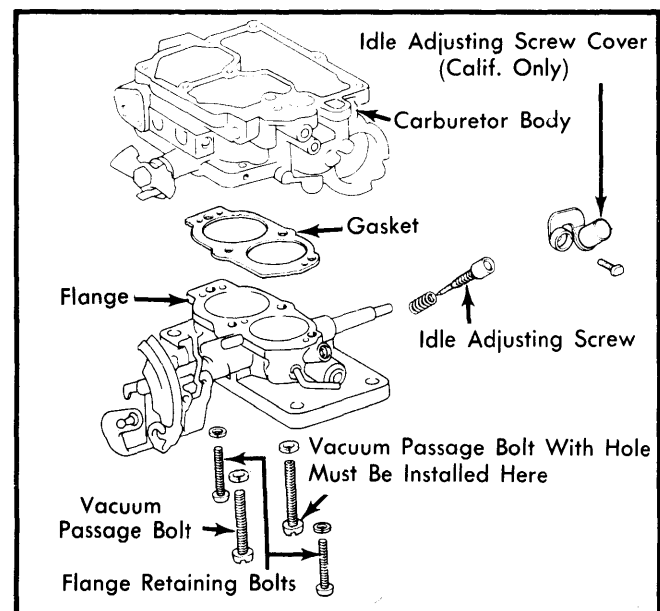

Fig. 13 Exploded View of Carburetor Flange Parts
Flange Parts – 1) Remove vacuum passage bolts and flange retaining bolts. Note position of vacuum passage bolt with hole. Using appropriate idle screw wrench, remove idle adjusting screw. See Fig. 13.
1) When assembling flange assembly, install vacuum passage bolt with hole in correct position. See Fig. 13. California models must have idle adjusting screw cover installed.